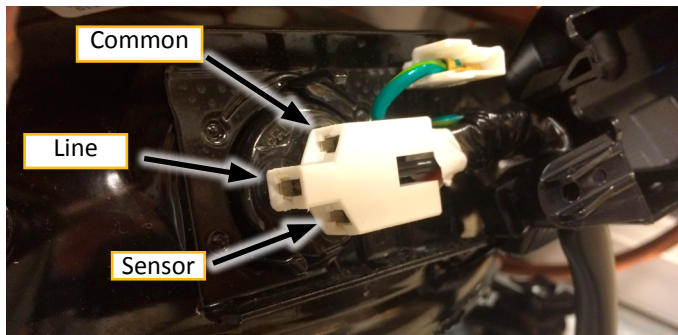

FIGURE 13: Voltage Testing Points
- Test voltage between Line and Common (Figure 13).